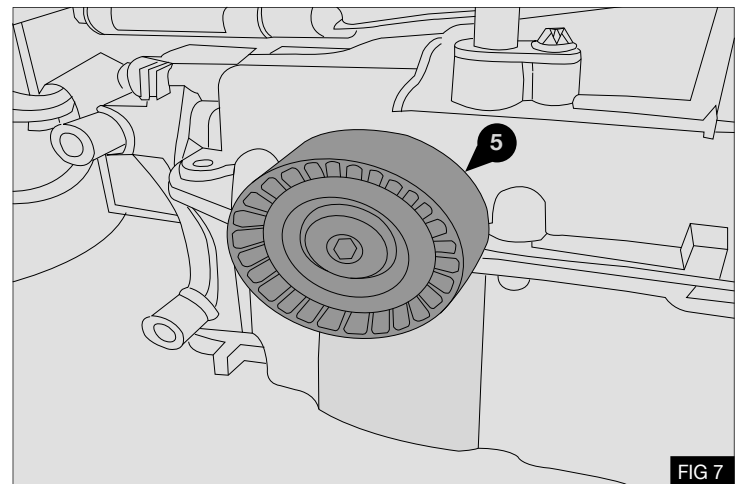

FIG 7
2. Using the supplied pulley (5) cut a thread into the hole in the sump in position shown - Fig 7.
**Note:** The pulley bolt (5) has a Trilobular thread and will cut a thread as it is tightened. Take care to tighten the pulley squarely to the pulley mount face when starting the thread.
3. Remove the pulley (5).